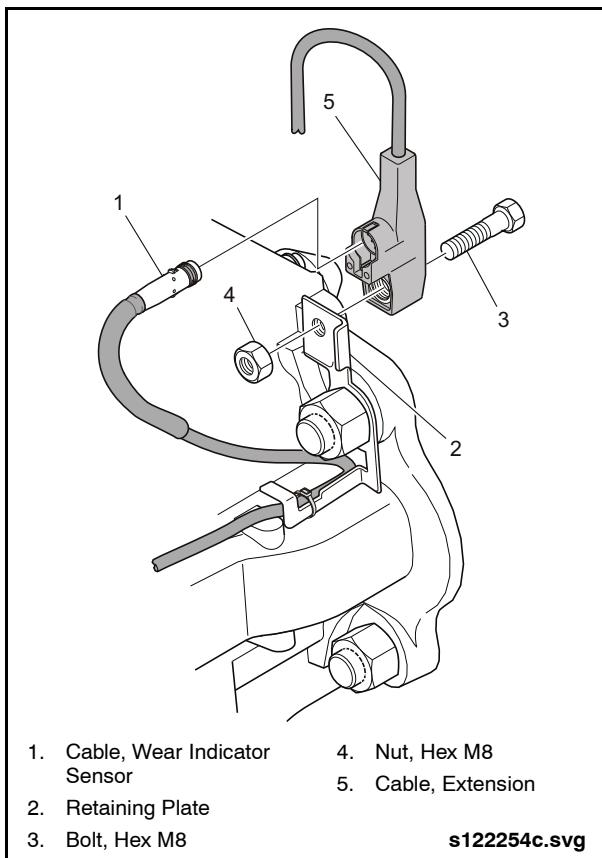

Fig. 2-119: Wear Sensor Cable Extension Removal
6. Remove the bolt and nut holding the wear sensor cable extension to the bracket on the brake caliper. See "Fig. 2-119: Wear Sensor Cable Extension Removal" on page 106.